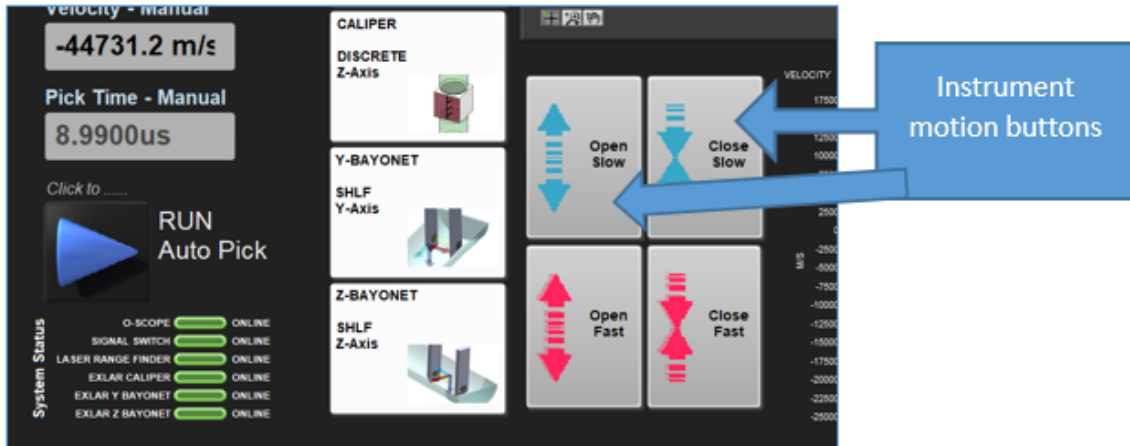
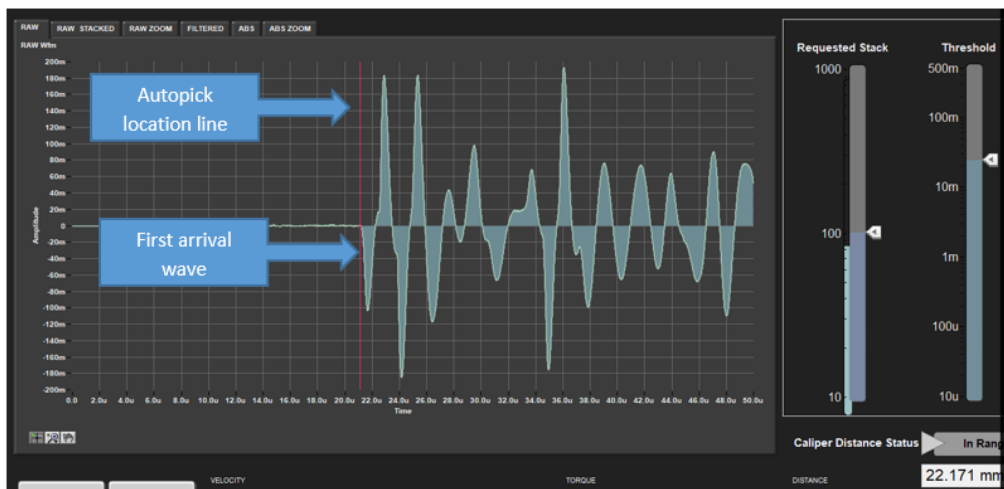

Figure 6. Instrument motion buttons.
Figure 7. Clean waveform indicating a strong/good signal.
Use the instrument motion buttons (*Figure 6*) to **slowly** lower the transducers to the sample. For the bayonets, you need to insert them so the circular part of the black sensor dot is fully submerged in the sample, but try not to go so deep you make contact with the liner. Use the slow motion buttons until you are comfortable with the speed. There is a slight delay between releasing the mouse click and the motion, so be careful not to crush your sample. For either the caliper or bayonet, keep an eye on the signal graph (*Figure 7*) while moving the instrument to see when you begin to get a good signal. Make sure the run button is selected so the signal graph is updating. You can use a few drops of deionized (DI) water at the sample-sensor interface to improve signal transmission. A piece of Glad Wrap is also a good way to keep the sensors clean and the core free of added water and contamination.
The program continually updates the velocity calculation and displays the value in the "Velocity – Auto" box (see *Figure 5*). The value is an average of the sets of stacks. It also displays a red vertical auto-pick location line (*Figure 7*), where the program's algorithm has placed the first arrival wave. If the velocity and auto-pick location look good, save and upload your data. If, however, the velocity is out of the expected range, or the pick location is not near or at the first arrival wave, see the *Supplemental Information* section at the end of this guide titled *Evaluating Your Measurement*.